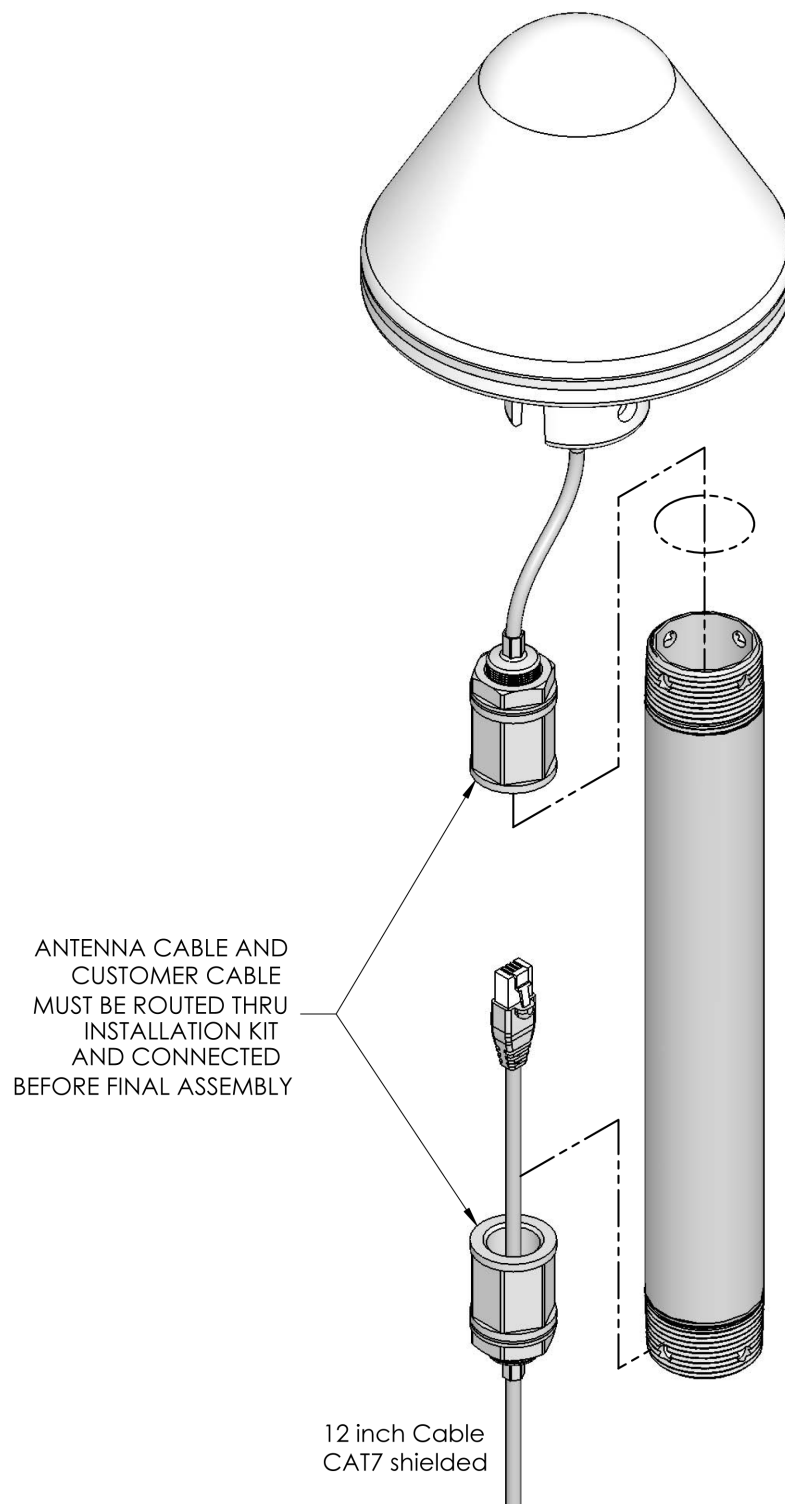

Figure 2-9 • Cable Routing Before Final Assembly
2. Guide the customer-supplied waterproof 12-inch CAT7 Ethernet cable and RJ-45 connector of the SyncServer S80 through the bottom of the mounting pole (070-02006-000). As partially shown in Figure 2-9, the cable must first pass through a pipe nut, then the mounting bracket, then through the second pipe nut.